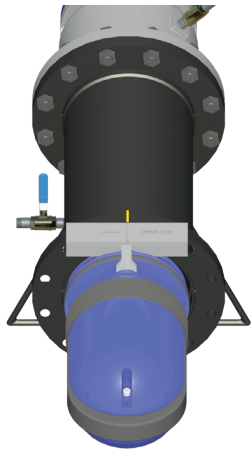

Figure 80
5.1.14 Set the curved portion of the alignment gauge within the completion pin groove of the valve cartridge. Slide the valve cartridge and alignment gauge towards the insertion housing until the alignment gauge touches the insertion housing. The 2 gauge pins will seat in the top 2 holes of the insertion housing (see Figure 80 on next page).
5.1.15 Ensure the flat of the alignment gauge arm remains aligned with the truncated side of the valve cartridge (see Figure 80).
5.1.18 Slide and place the guide plate to within two inches of the stop collar and lock the clamp lever (see Figure 80).